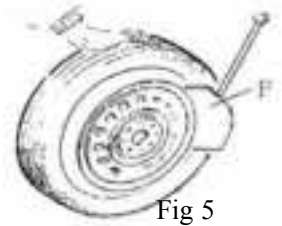

Fig 5
3) Open the bead breaker arm by hands by pushing it towards the outside, place the tyre against the rubber buffer. Bring the paddle against the bead about 10mm from the edge of the rim shown as Fig 5.